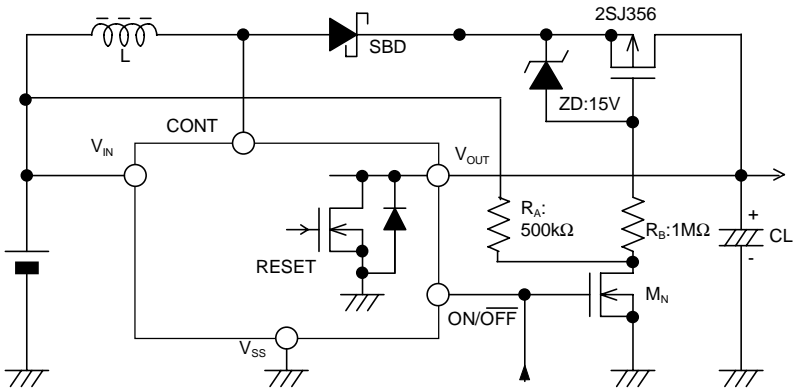

Figure 6 Circuit Example Using 2SJ356
Figure 6 shows a circuit example using the NEC 2SJ356 (Pch MOS FET) as a current cutting switch. This circuit example turns ON and OFF the 2SJ356 in connection with the reset signal to the power off pin using a small signal transistor M_N (Nch MOS FET). A Zenor diode (ZD) is used for the purpose of clamping voltage so as not to apply high voltage (20V or more) of the rated voltage between the gate and the source of the 2SJ356. However, when the circuit is used at 20 V or below, a Zenor diode is not needed. Invalid current flowing into resistors R_A , R_B during step-up operation may affect the efficiency. Set R_A , R_B to the maximum level. If you set the resistance of R_A to the high value, a drop in the voltage occurs in resistor R_A due to off current of M_N and the current cutting switch 2SJ356 does not normally function. Be careful (Note that the efficiency characteristics shown in the reference data were measured without attaching a current cutting switch and is different from that shown in this example).